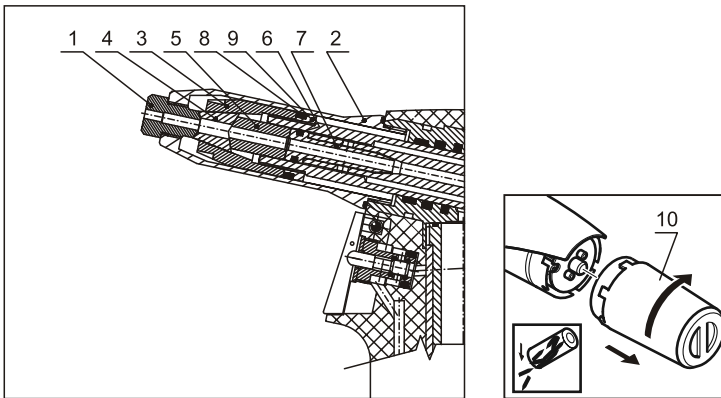

Fig. 2
Disconnect the tool from the source of compressed air, unscrew the adjustable front nozzle /fig.2 - pos.2/ by means of a spanner no. 23, set the spanner no.15 onto the clamping sleeve /fig.2 - pos.3/, set the spanner no. 17 on the backnut /fig.2 - pos.9/ and loosen. Unscrew the clamping sleeve, replace the jaws /fig.2 - pos.4/ and jaw pusher /fig.2 - pos.5/. Then screw the clamping sleeve back on and shift out the suction pipe /fig.2 – pos.7/ by means of short connection of the tool to compressed air. The suction pipe can be removed after disconnection of compressed air and unscrewing the clamping sleeve. All used threads are right-handed. Clean the dismantled parts thoroughly and check them visually, especially the following:
- 1) Jaws /fig.2 – pos.4/ - if worn or damaged, replace it, if dirty, clean it with a wire brush.
- 2) Nose-piece, jaw pusher /fig.2 – pos.1,5/ - for wear of functional surfaces of the taper.
- 3) Completed tube /fig.2 - pos.7/ - blow air through, if not clear (congested with shanks of BR), replace it.
- 4) „O” ring / fig.2 - pos.6/ - if damaged, replace it with a new one.
- 5) Adjustable front nozzle / fig.2 - pos.2/ - check for damage of the internal surface (Ø 18).
- 6) Scraper ring /fig.2 - pos.8/ - if damaged or worn, replace it with a new one.
- 7) Mandrel container / fig.2 - pos.10/ - if the mandrel container or its bottom are worn or damaged, replace them with new ones, otherwise there is danger of the torn-off shank popping out.
Mount the parts (see par. disassembly) in a reverse order. On the outer surface of the jaws /fig.2 – pos.4/ apply a drop of lubricating oil (we recommend hydraulic oil HYPSPIN AWHM 32 CASTROL), apply thin layer of plastic lubricant MOGUL LV 2-3 to the suction pipe and "O" ring /fig.2 – pos.7,6/. Basic set-up of the jaws is performed as in fig. no. 3.